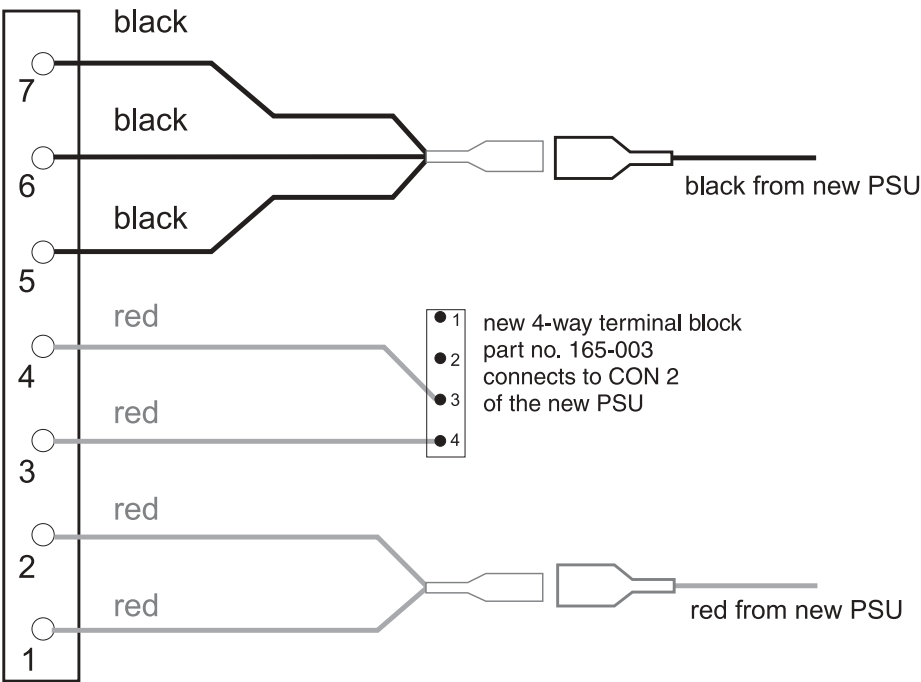

Fig. 3-2 New PSU and motor controller cable loom
4. Using a new 4-way Molex connector (Fig.3-2), remove the red wire (terminal 3) from the 7-way connector and insert it into terminal 3. Repeat this procedure for the black wire (terminal 4) inserting it into terminal 4 of the new 4-way Molex connector.